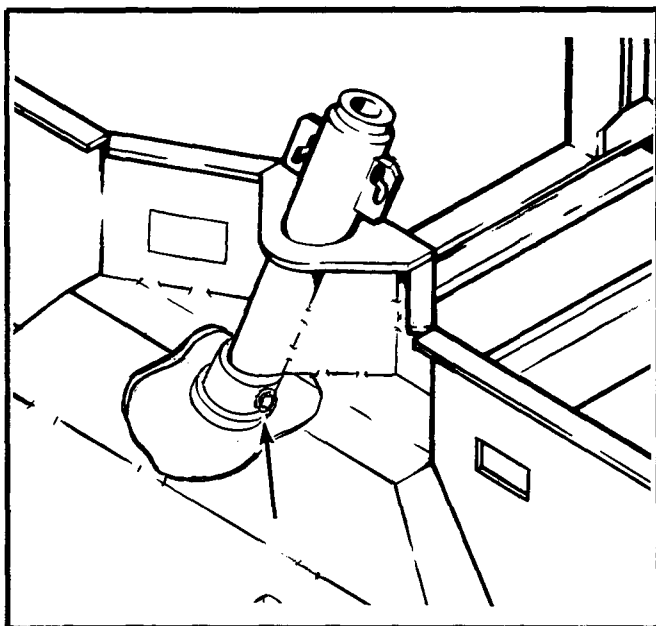

Figure 9.
3. Lubricate fork tube grease fitting. See Figure 9.